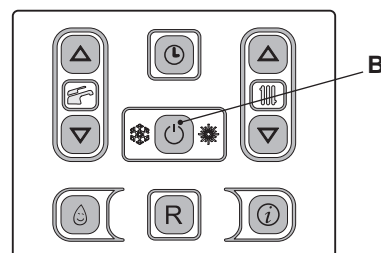

Figure 9.8
- 3 To memorize the setting press the key "B" (Figure 9.8).